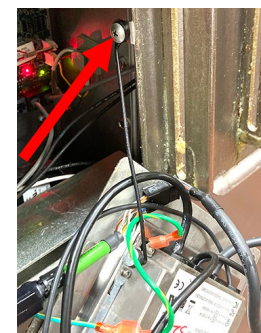

Figure 32
60. Reattach the controller to the fryer, ensuring the lanyard is connected **FIRST** (see Figure 32).